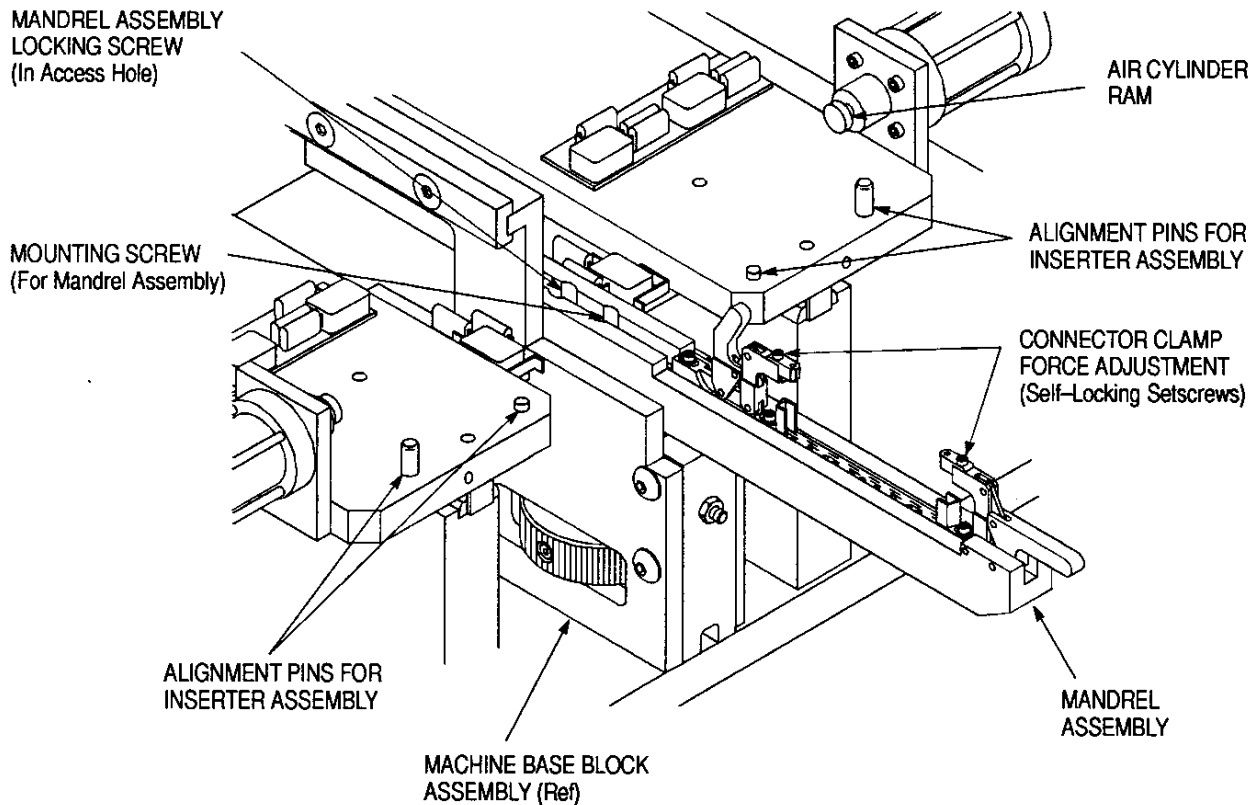

Figure 2
3.1. Mandrel Assembly (Figure 2)
2. Locate the base of the inserter assembly onto the two alignment pins on the machine's inserter assembly mounting area. Refer to Figure 2.
3. Using a 5/32-in. hex wrench, loosen the mandrel assembly locking screw, which is located in the center access hole. Refer to Figure 2.
With a connector loaded onto the mandrel assembly, use a .050-in. hex wrench to adjust the connector clamp self-locking setscrews as desired. Refer to Figure 2.